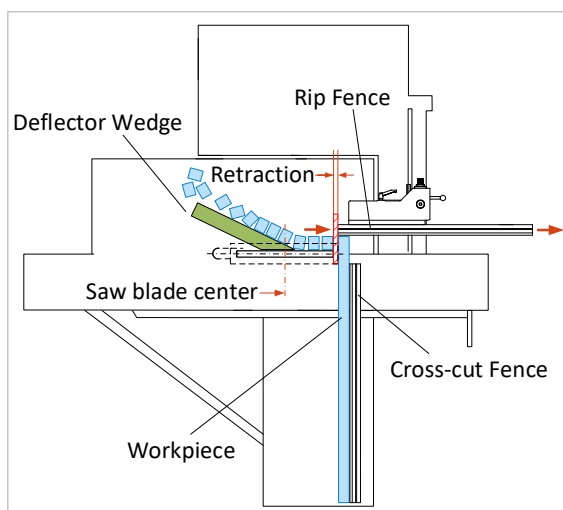

Figure 5: Fixing the deflector wedge on the table
- ➔ To do this, move the rip fence backwards towards the operator's side and fix it so that there is enough space between the fence and the front edge of the saw blade for the retraction (see ⇨ Figure 5).
- ➔ Fix an additional deflector wedge (see ⇨ Figure 5) auf on the table top so that small parts that have already been cut off cannot be caught by the rising teeth and flung upwards.